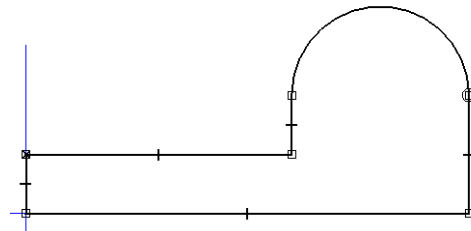

Figure 2-54 Outer loop of the profile for Tutorial 3
12. Click to specify the endpoint of the line. The profile after drawing the outer loop is displayed in Figure 2-54. Next, press ESC to exit the tool.